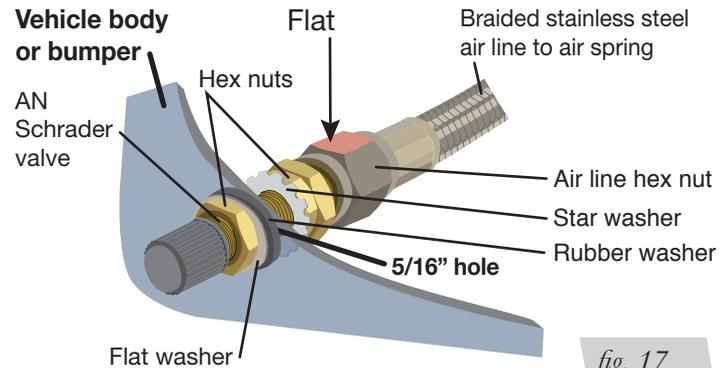

fig. 17
2. Tighten the air line hex nut finger tight, then use 2 wrenches to turn 1 additional flat (1/6 of one full turn). **Do not overtighten** (Figs. 17 or 18). The easiest way to tighten the fitting is off the vehicle. Install the Schrader valve in the chosen location.